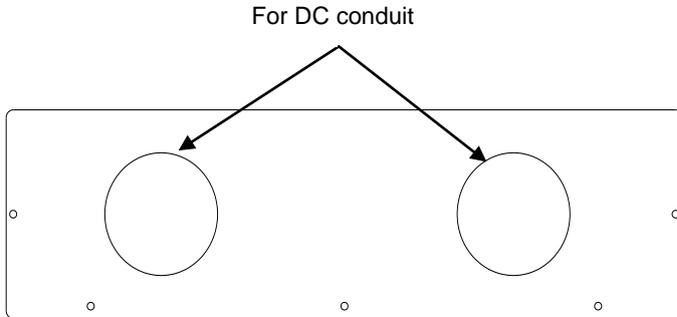

Figure 3-8 Holes on DC bottom cover
② Routing from round holes on the two bottom covers:
- (b) Punch two holes on the DC bottom cover for DC conduits, as shown in Figure 3-8;